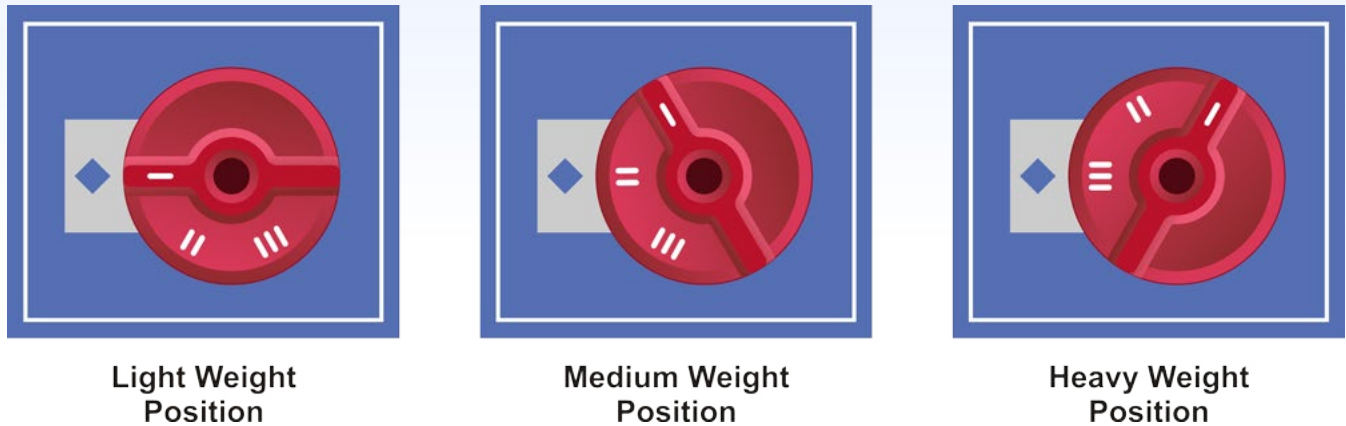

Figure 8 EZ Adjust Knob Positions
**EZ Adjust Knob** - The EZ Adjust capacity adjustment knob allows the operator to change the collapsed capacity of the EZ Loader without adding or removing air from the system. The knob's three (3) positions are identified in Figure 8.